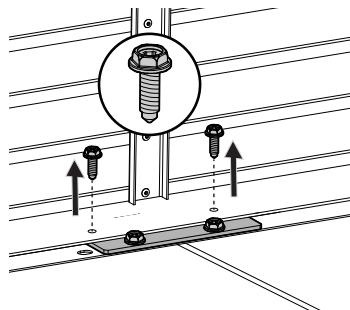

Fig. 22
- c. Install the top trim by fastening four 4H screws along the base of the trim with a $\frac{5}{16}$ " socket wrench (Fig. 22).